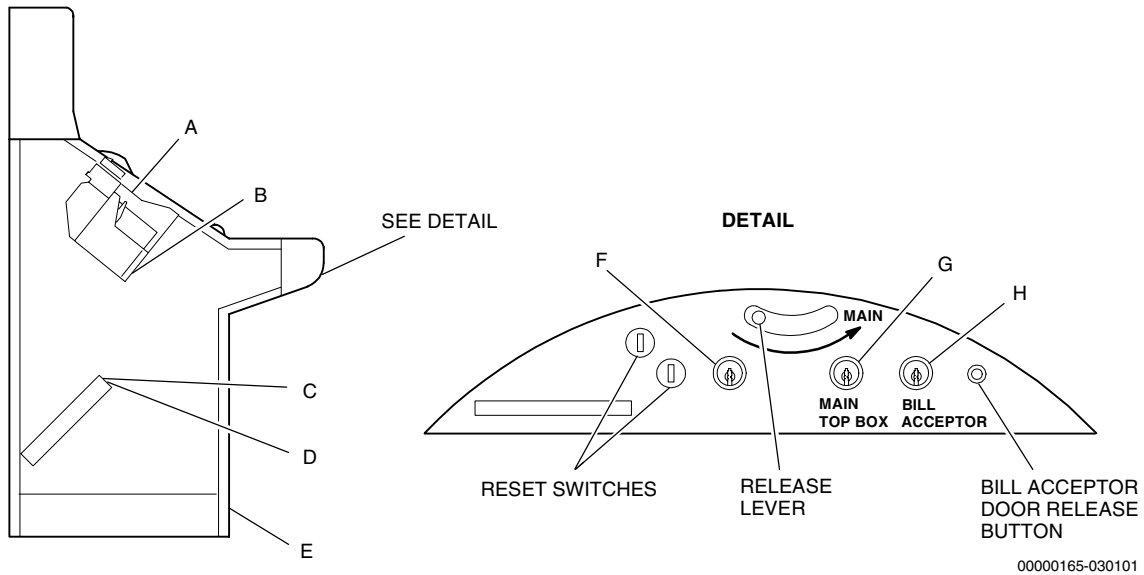

Figure 2-26. Lock Specifications – Game King 17” Slant-Top
- Lock Specifications – Figure 2-26 and Table 2-26